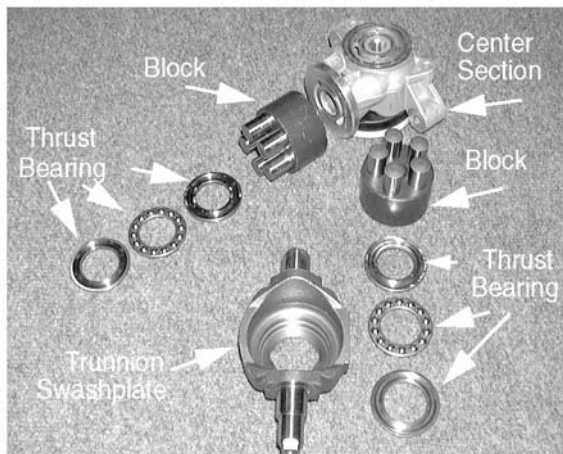

Figure 6-65.
30. Separate all the components and check for damage or wear. See Figure 6-65.